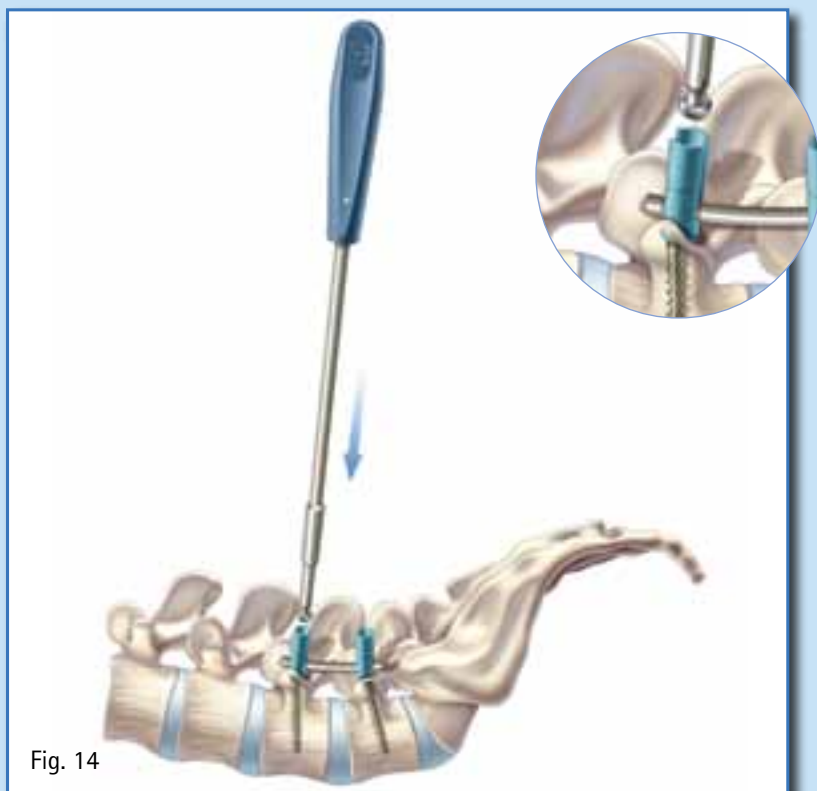

Fig. 14
- Finger tighten the set screw into the screw body until it contacts the rod. (Fig. 14)